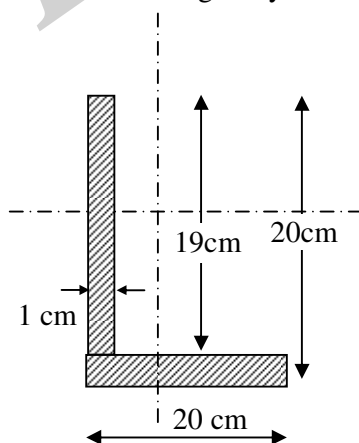

Figure 2
4. Find the Center of gravity of the L Section Shown in Figure 2.